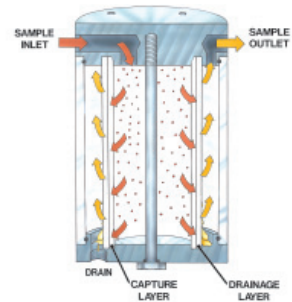

Figure 2
2. Coalescing and Particulate Filter (See Figure 2): Filter is installed with flow passing from inside of element to the outside. An automatic drain is usually installed to remove the condensate.